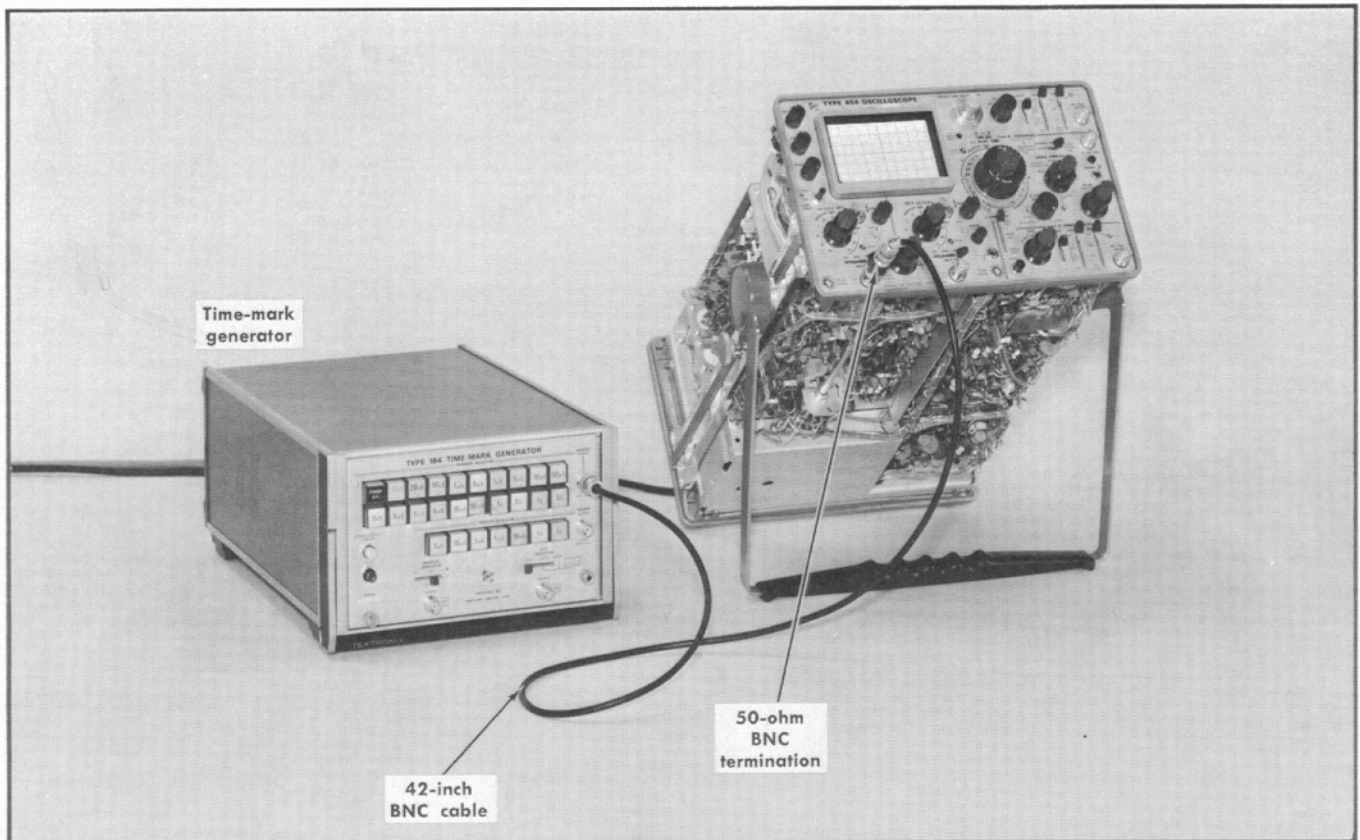

Fig. 6-43. Initial test equipment setup for steps 51 through 71.
- Test equipment setup is shown in Fig. 6-43.